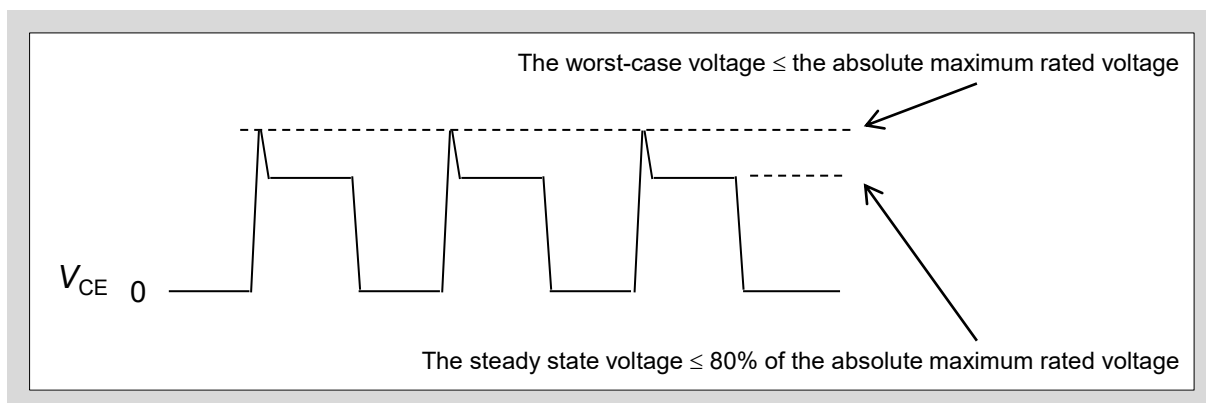

Fig. 3-10 Voltage waveform during switching
- As shown in Fig. 3-10, design and use the device with a steady-state voltage not exceeding 80% of the absolute maximum rated voltage. Even under worst-case conditions, keep the applied voltage within the absolute maximum rated voltage.